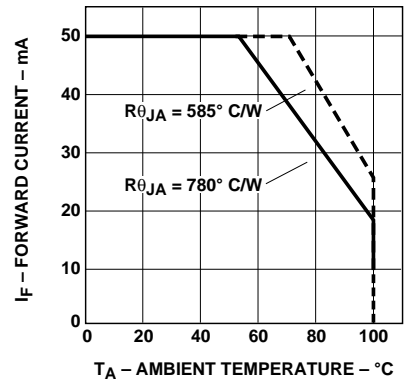

Figure 4. Maximum Forward Current vs. Ambient Temperature. Derating Based on TJMAX = 130°C.
- Derate linearly as shown in Figure 4.